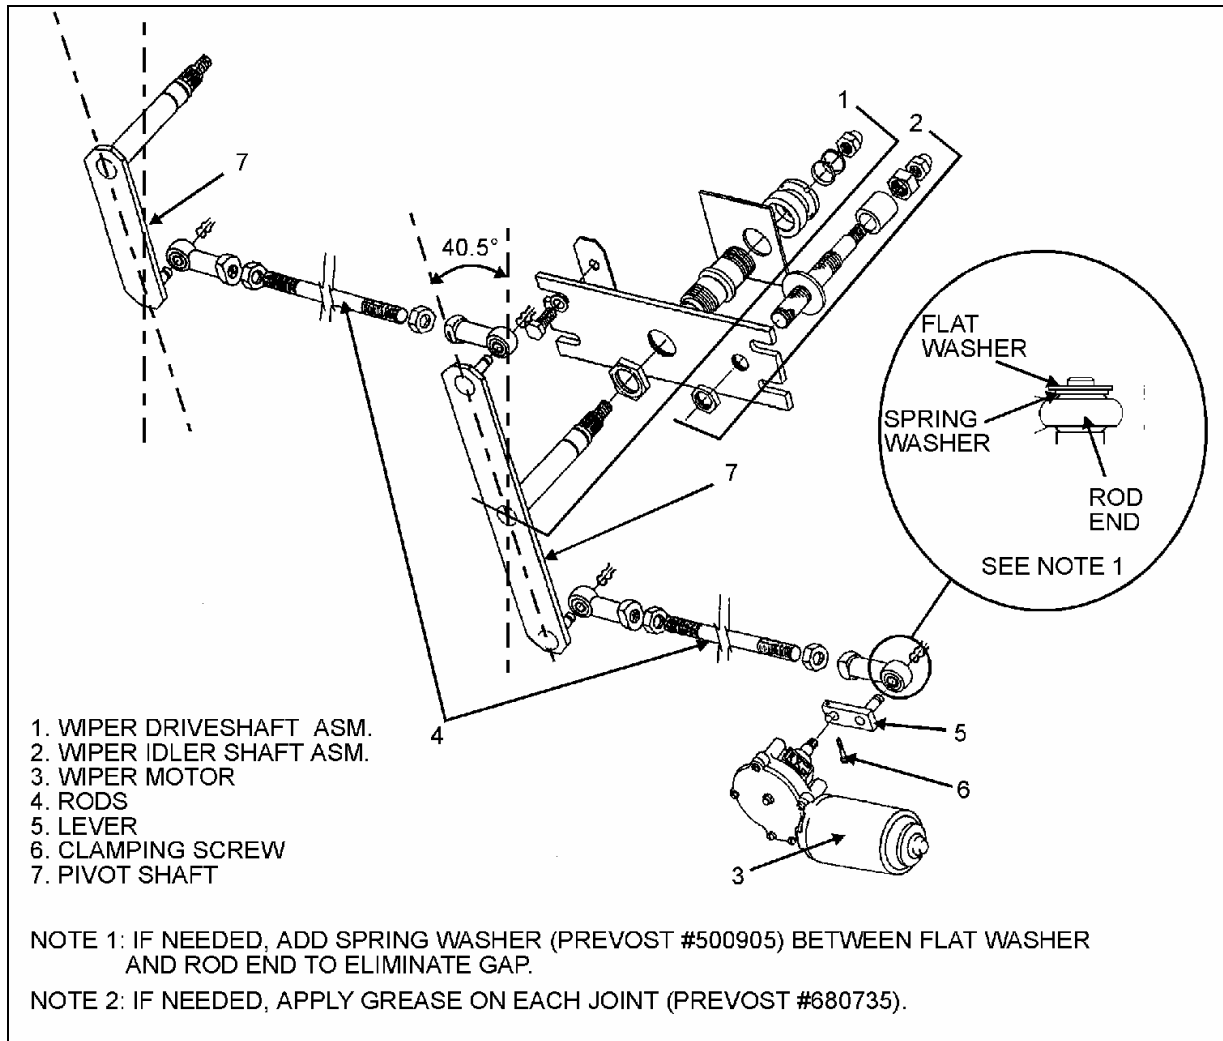

FIGURE 36: LOWER WINDSHIELD WIPER INSTALLATION
4. Adjust the rod located between right pivot shaft and motor to a 40.5° angle (Fig. 36). The motor lever must be on the same axis as the rod.